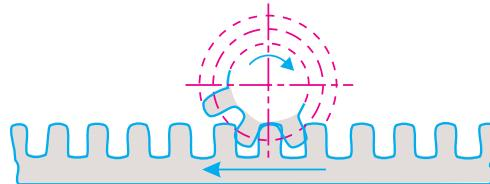

Fig. 34.5. Rack and pinion.
**3. Rack and pinion.** Sometimes, the gear of a shaft meshes externally and internally with the gears in a straight line\* as shown in Fig. 34.5.
Such a type of gear is called *rack and pinion*. The straight line gear is called rack and the circular wheel is called pinion. A little consideration will show that with the help of a rack and pinion gear, we can convert linear motion into a rotary motion and *vice versa* as shown in Fig. 34.5.